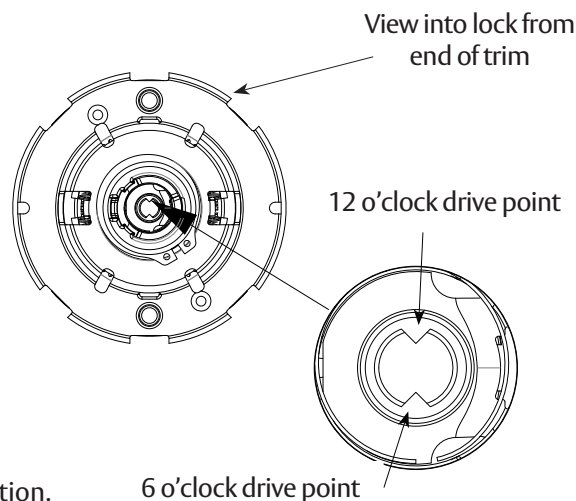

Figure 9
- Use a flat blade screwdriver to rotate cam until the driver points are in a 6 and 12 o'clock position. (See Figure 9, Page 7.)
With driver points at 6 and 12 (See Figure 9 on page 7.), rotate key 45° in either direction, and then slide the lever on over the lever catch. Confirm the lever will not pull off.
1. Remove cylinder lever(s) to view internal cam. (See Figure 9.)
1. Remove cylinder lever to view internal cam. (See Figure 9.)